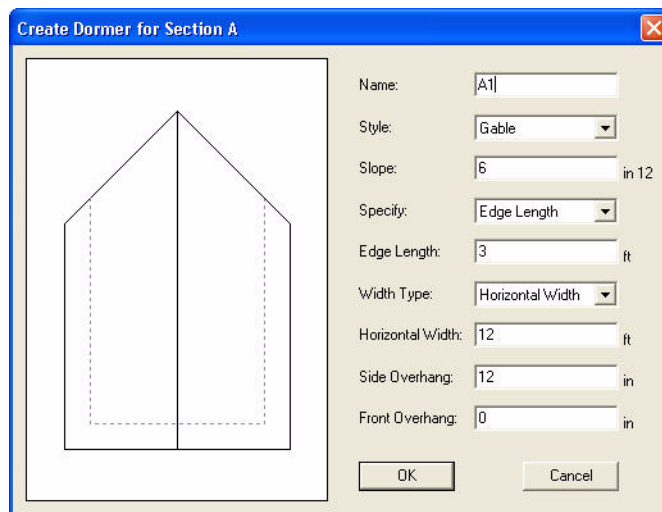

Figure 2-3 The Dormer Wizard
The **Create Dormer** window appears, as in *Figure 2-3*.
2. Fill the text boxes on your screen to match the options selected in *Figure 2-3*, and click **OK**.